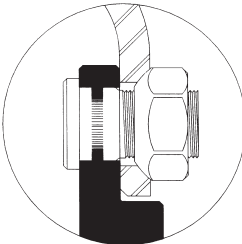

Figure 19
- 10 Hole, 133/16" Bolt Circle (HD) Mounting**
Duplex wheels with this mounting pattern have a heavy duty (HD) mounting. This mounting has different bolt hole chamfers (13/16" ) and requires special nuts with this same chamfer (13/16" ). These nuts are shown in Figure 19. Use the same tightening procedure described on page 40 (Figure 8), but the final torque value should be 750 to 900 ft.-lbs. (dry).